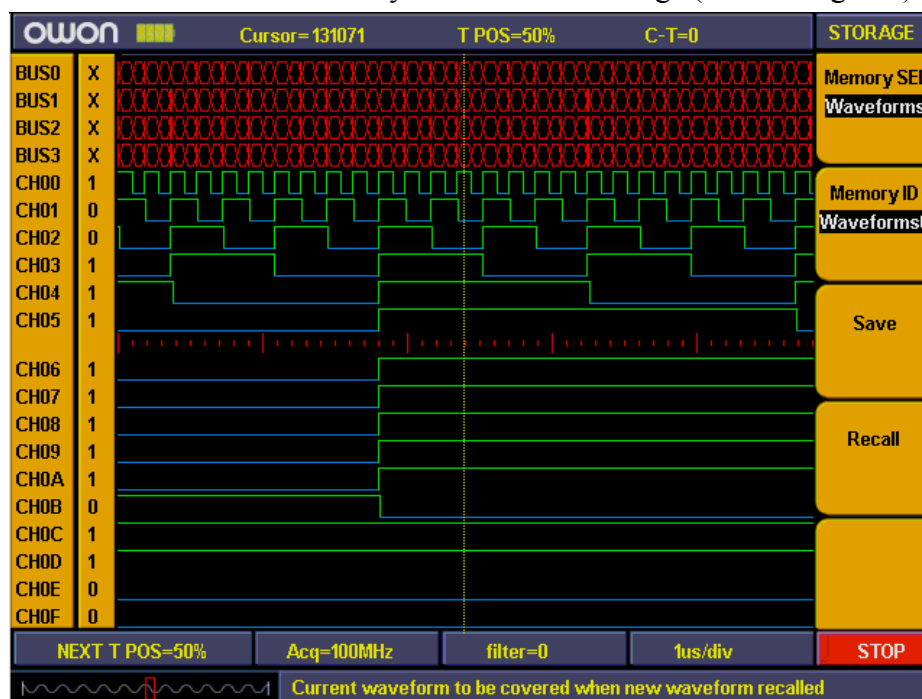

Fig.100: Waveform saving
8. Press “**F4**” to recall the memory waveform or settings (refer to Fig.100)